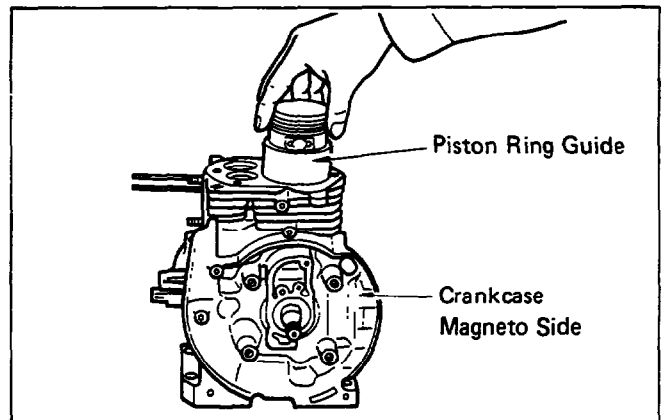

Fig. 9-4-5
- (2) The connecting rod is joined to the piston with the piston pin.
- (3) In setting the connecting rod, hold it with a piston ring guide, as shown in Fig. 9-4-5, (or, if there is no ring guide, tap the piston head with a wooden object pressing the piston ring with a finger tip to push it in). Set it to the position of the  $\odot$  mark or MA mark of the connecting rod in the flywheel magneto side.